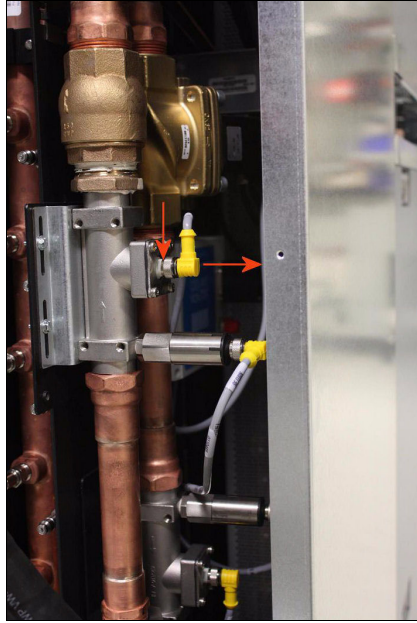

Figure 4-37 Yellow sensor locking ring²
10. Disconnect the gray sensor cables from the sensors by unscrewing the locking ring at the yellow end of the cable, as shown in Figure 4-37 on page 107.